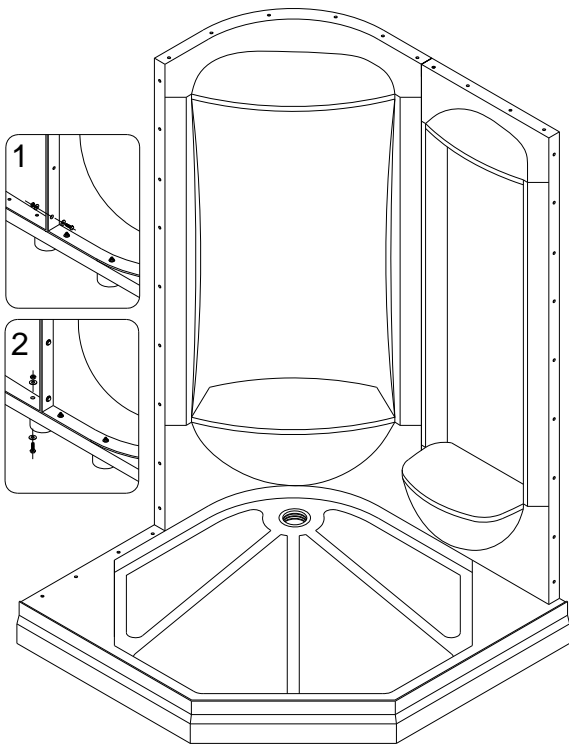

Fig 7
7. Connect the **Back panel (02)** and the **Side panel (03)** with **Bolt M6x20 (with nut, washer) (23)**. Secure the side panel to the tray with **Bolt M6x40 (22)**. (In these instructions the panel is shown on the right side of the tray, but for reverse installation - the side panel can also be installed on the left of the tray). See Fig 7 for details.